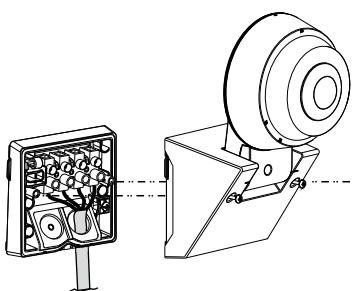

Fig. 11
4. Fix the detector head to the bottom cover (See Fig. 11) and adjust the detector head to be in the right position (See Fig. 12 A & Fig. 12-B).